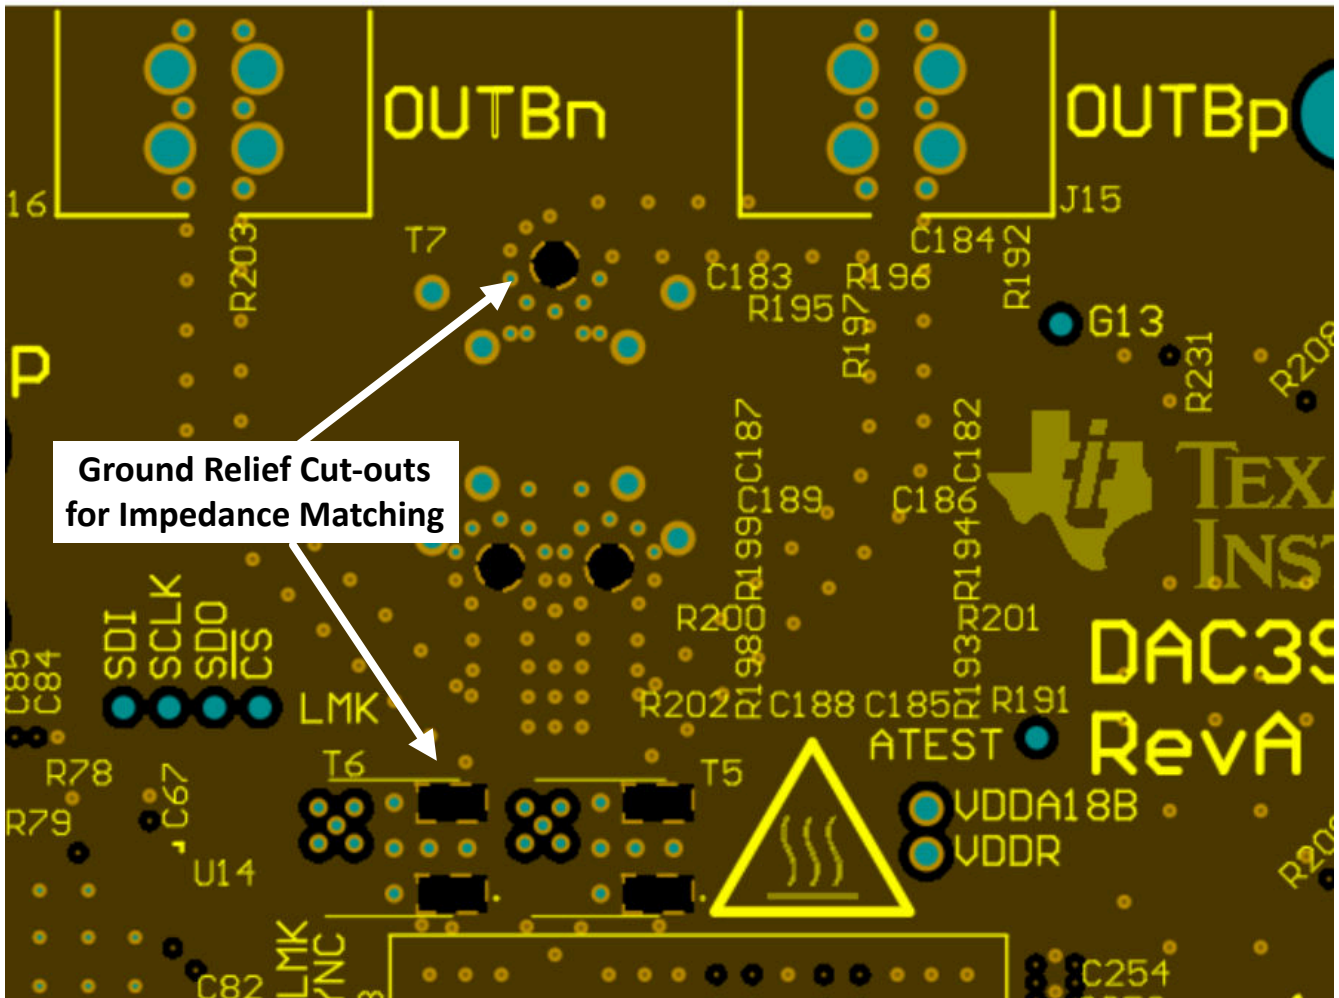

Figure 8-25. Ground Cut-outs below Balun and Bias-T Pins
5. Incorporate any ground plane cutouts necessary at component landing pads, ie – SMA connectors, baluns, and so on, to avoid impedance discontinuities at these locations. Cut-outs below these landing pads on one or multiple ground planes to achieve a pad size or stackup height that achieves the needed 50Ω, single-ended impedance. See Figure 8-25 and Figure 8-26 as an examples.